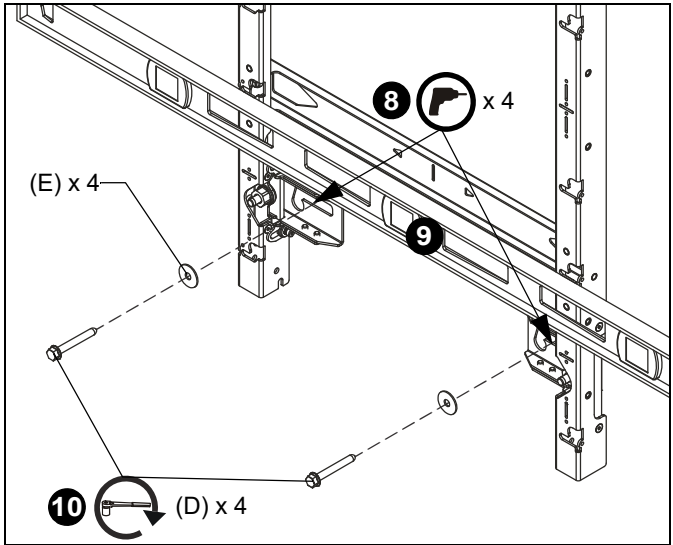

Figure 21
9. Double check the level of the mount at the bottom of the teardrop slots, and make sure the new mount stays perfectly aligned with the upper or lower mount to which it was attached. (See Figure 21)
10. Fully tighten the 5/16 x 2-1/2" lag screws (D) through the 5/16" fender washers (E). (See Figure 21)